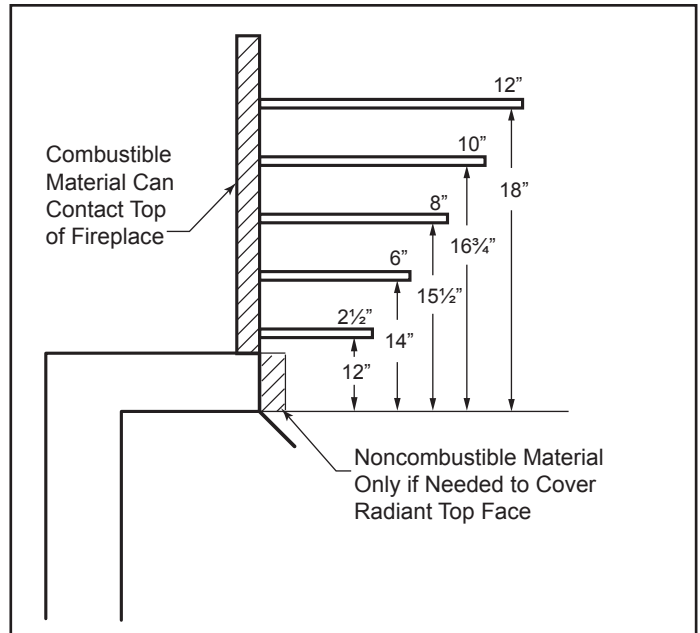

Figure 6.3 Mantel Clearances
- 5. **Mantel clearances:** If a combustible mantel is installed, it must meet the clearance requirements as shown in Figures 6.3 & 6.4.